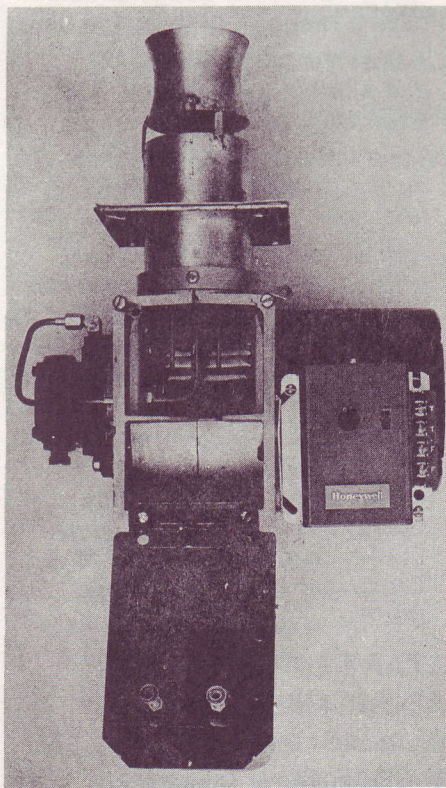

FIGURE 8
1. Disconnect the oil line as shown in Figure 8. Remove the nozzle line thumb nut and loosen the nozzle line adjusting screw.